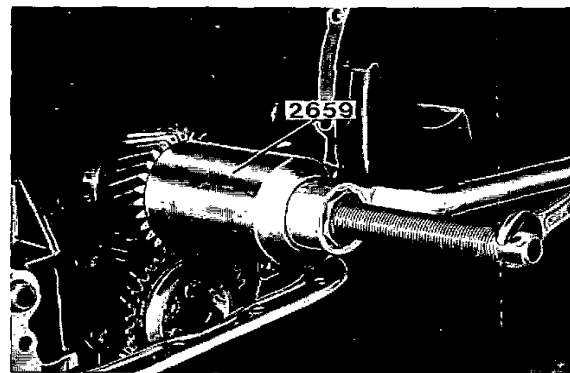

Fig. 80. Fitting the crankshaft gear
1. Check that the crankshaft key is fitted. Fit the crankshaft gear using tool 2659 (fig. 80).